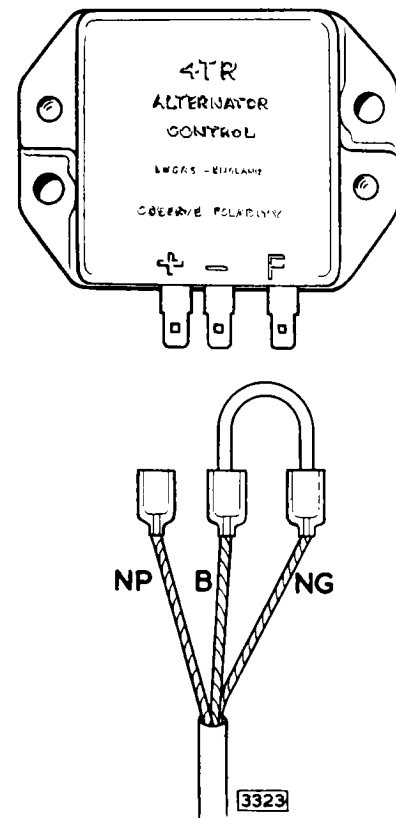

Fig. 3. Detach the terminal connectors from the base of the control unit.
3. Detach the terminal connectors from the base of the control unit and connect the black and brown green cables together by means of a short length of cable with two Lucar terminals attached. This operation connects the alternator field winding across the battery terminals and by-passes the output control unit (Fig. 3).